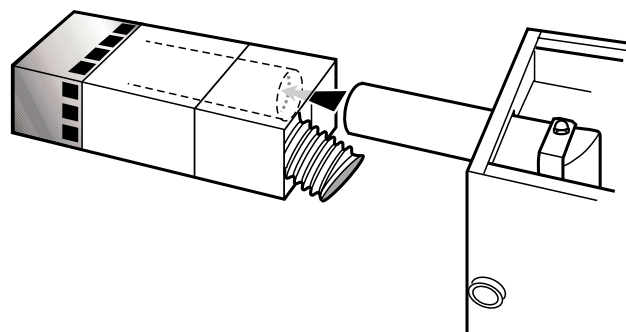

Fig. 25
- 8 Extend the telescopic flue assembly to the approximate required length. Offer the flue assembly up to the flue elbow ensuring that the assembly is in line with the elbow and engage the flue pipe over the elbow. See Fig. 25.